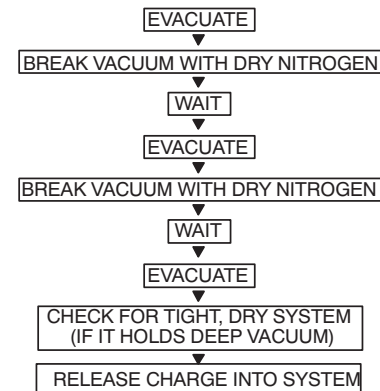

Fig. 26 — Triple Evacuation Method
The triple evacuation method should be used when vacuum pump is not capable of pumping down to 500 microns and system does not contain any liquid water. Refer to Fig. 26 and proceed as follows:
5. Repeat this procedure as indicated in Fig. 26. System will then be free of any contaminants and water vapor.